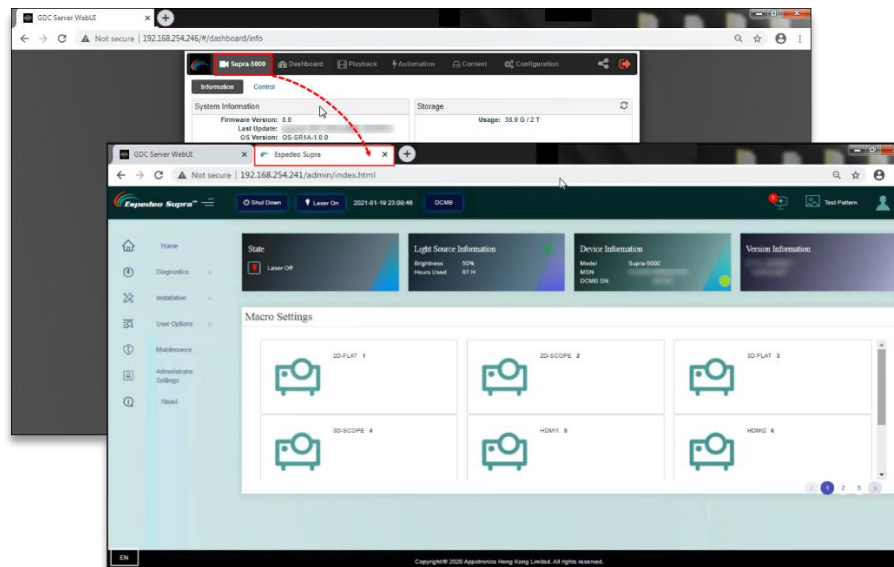

Figure 22: Accessing Supra Command Center when Single tab mode is disabled
- b. When the **Single tab mode** option is disabled; you can click on the **'Supra-5000'** tab to open and access the Supra Command Center web interface in a new browser tab (as shown in **Figure 22**).